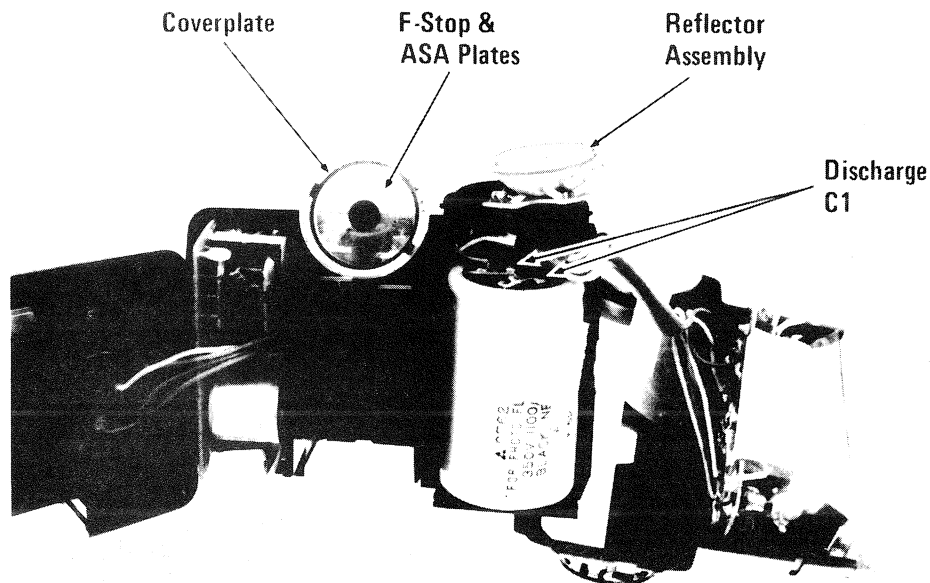

Figure 3-5. Discharging the Main Capacitor
- H. Make certain that after reinstalling the calculator dial parts and the exposure dial reflector assembly, the dial clicks when it is rotated. If it does not, check to see that the dial detent is properly in place. Figures 3-5 and 3-20.